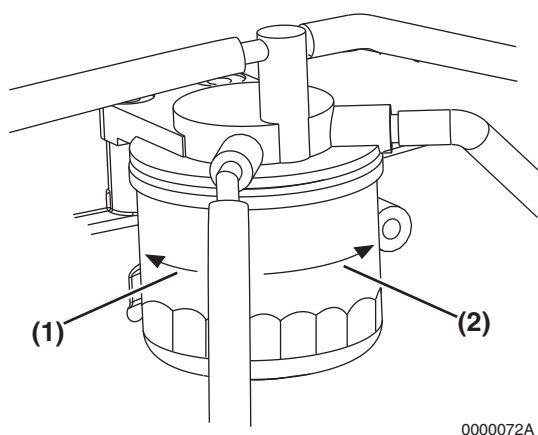

Figure 5-14
5. Install the new fuel filter. Turn to the right (**Figure 5-14, (2)**) and hand-tighten it only until it comes in contact with the mounting surface. Tighten to 14 - 17 ft·lb (19.6 - 23.5 N·m; 2.0 - 2.4 kgf·m) or one additional turn using the filter wrench.